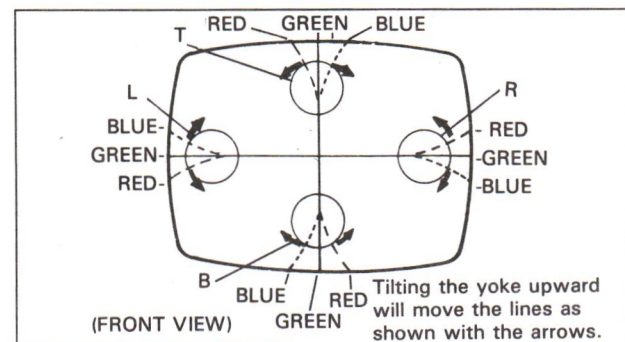

Fig. 4
2. Oscillating the deflecting yoke up and down, set a convergence of points, L, R, T and B, on the screen and temporarily fix it with a wedge. (Fig. 4)